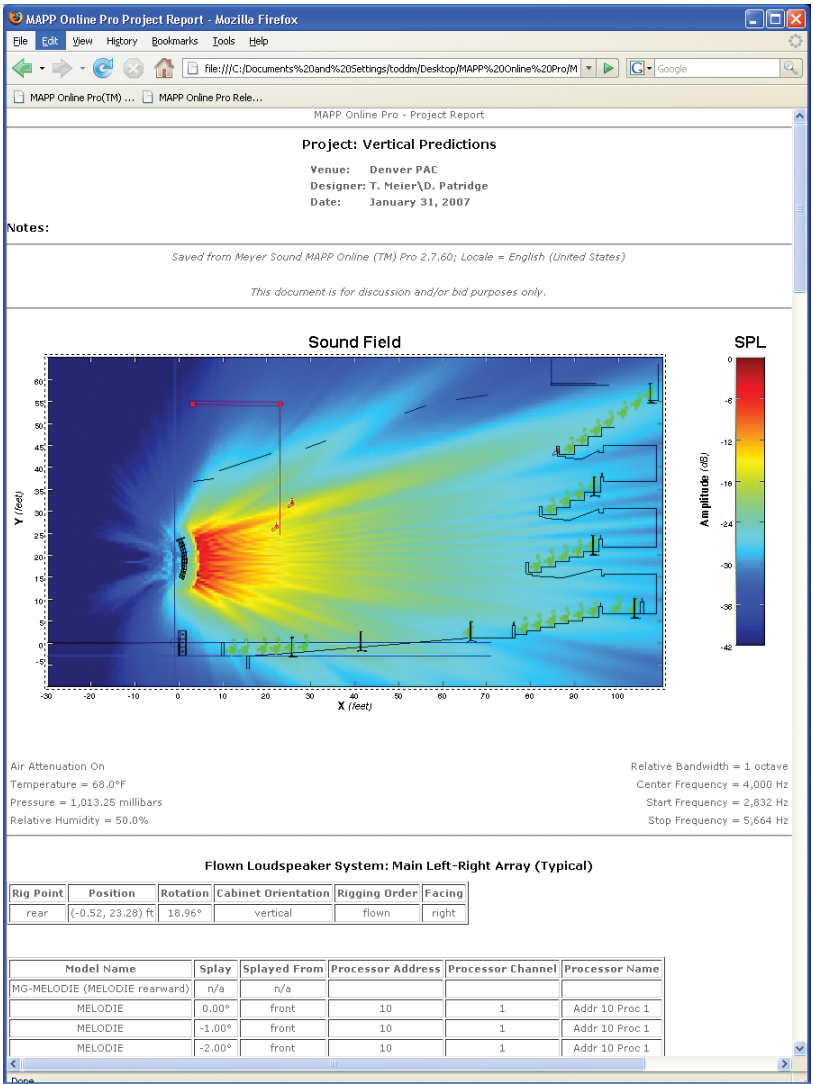

Figure 33. MAPP Online project report, viewed in a Web browser
2. Type a descriptive name then click **Generate Report** to save the current report or **Cancel** to proceed without saving. An HTML page will be generated that includes references to images of the sound field prediction, Virtual SIM panels if present, a list of your loudspeakers, microphones and other project properties (Figure 33). Once this page is created, it can be opened up for viewing and printing in a browser window. The HTML output is compliant with XHTML 1.0.